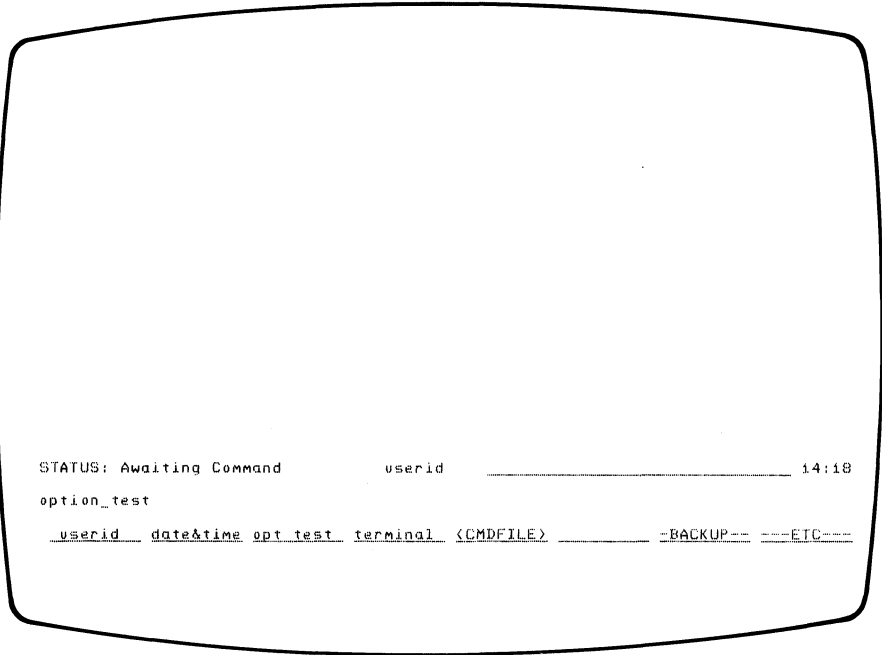

Figure 4-1. System Awaiting Command Display
- a. With the operating system initialized and awaiting a command (figure 4-1), press the opt_test softkey command. The display should show: